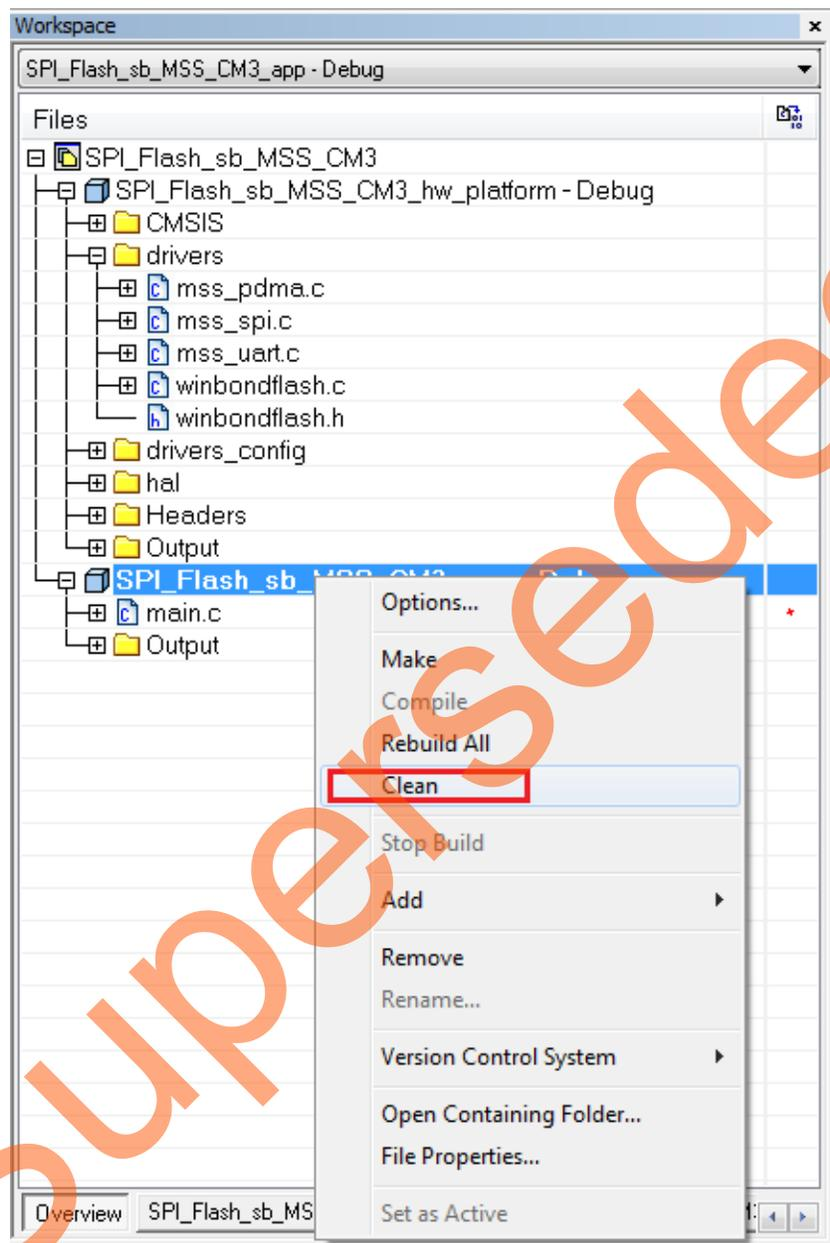

Figure 34 • IAR Workspace - Execute Clean on SPI_Flash_sb_MSS_CM3_app Project
17. Right-click **SPI_Flash_sb_MSS_CM3_app - Debug** project name and select **Clean**, as shown in Figure 34.